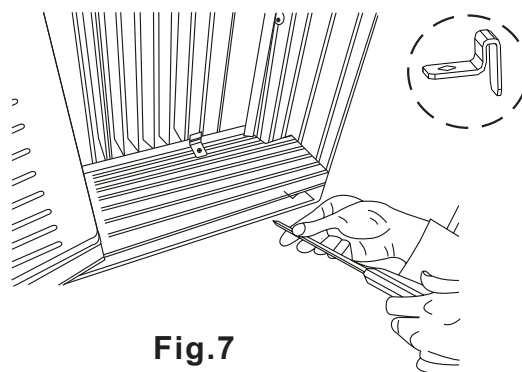

Fig.7
- A. Place the frame lock between the frame extensions and the window sill as shown (Fig.7). Drive $\frac{3}{4}$ " (19mm) or $\frac{1}{2}$ " (12.7mm) locking screws through the frame lock and into the sill.